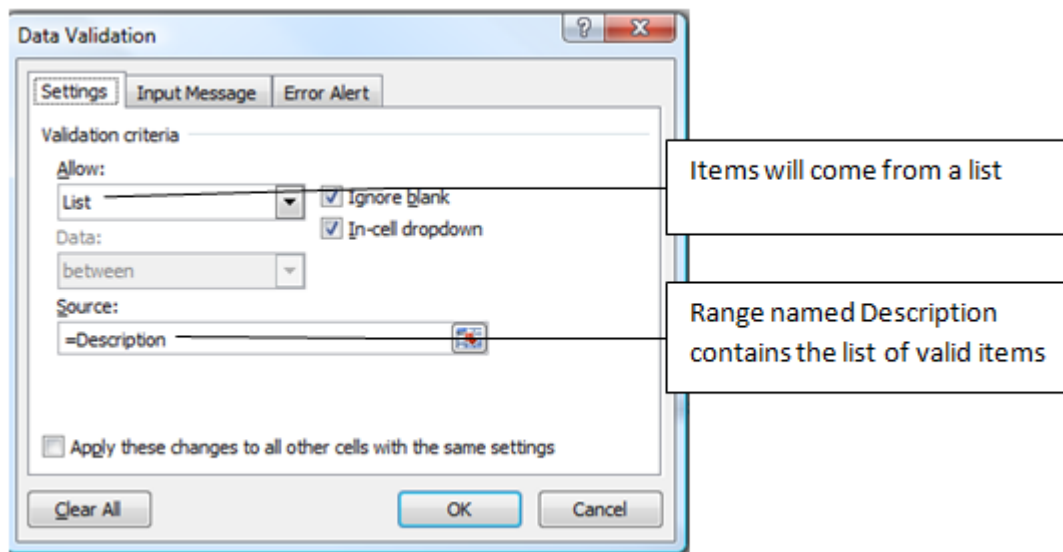

Figure 8.19. A validation list is created to use the Description named range
4. In the displayed Data Validation dialog box, on the Settings tab, click the Allow arrow and then click List. In the Source box type **=Description** and then compare your results with Figure 8.19.